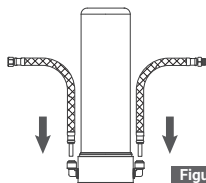

Figure 1
1. Connect the inlet hose and the outlet hose to the filter head. (Figure 1) When the tubing is fully inserted, put the blue lock clip on the fitting. It will lock the tubing in place and prevent it from falling off.